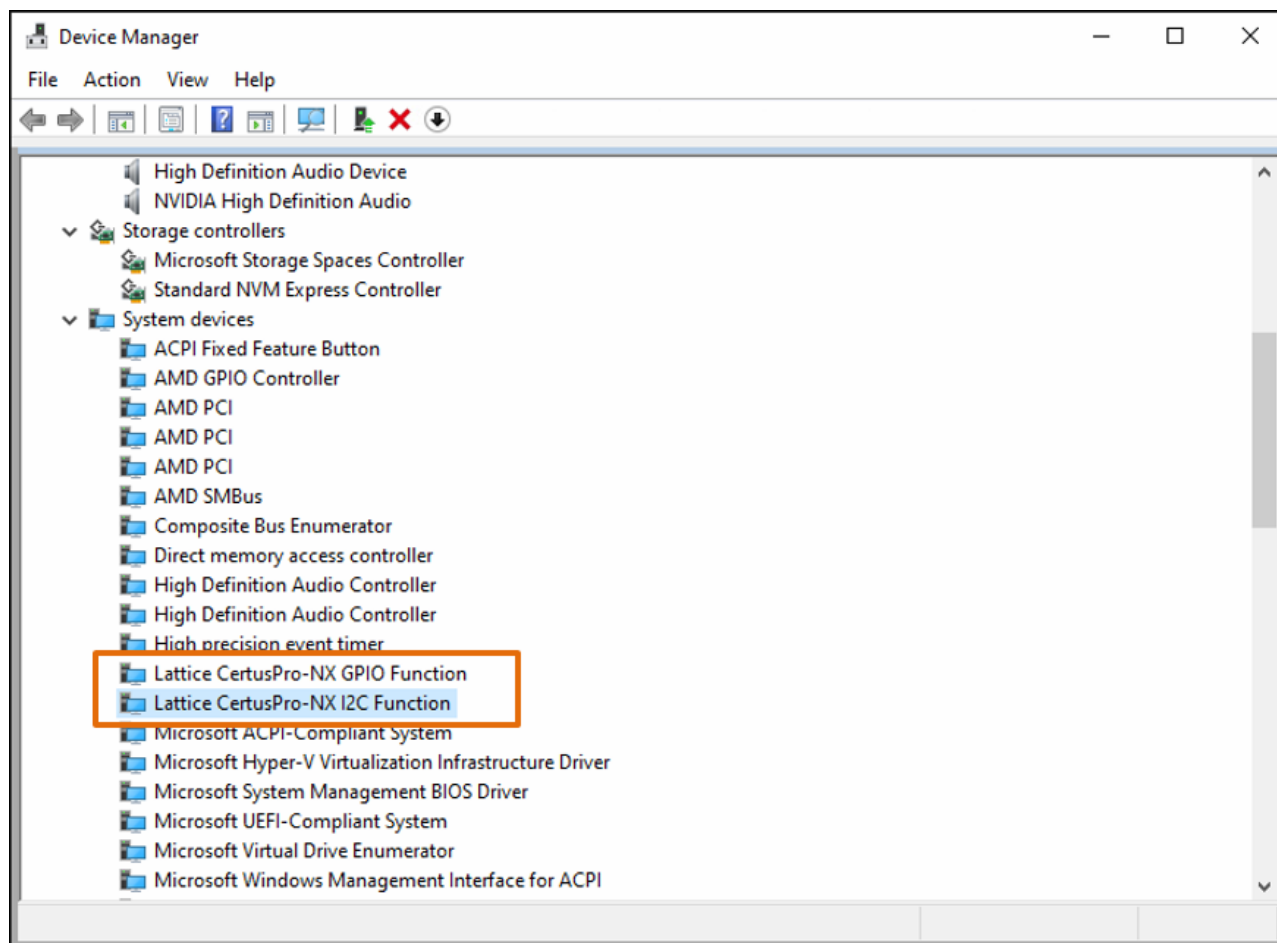

Figure 5.30. I2C and GPIO Device Drivers for MachXO5-NX using LFMXO5-65T Device in Device Manager
9. Follow steps 3 through 8 for the GPIO devices. After successful installation, all two devices must be displayed in the Device Manager as shown in Figure 5.30.